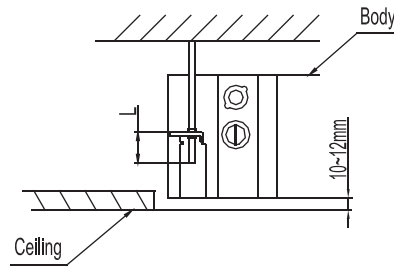

Fig.5-4
- Adjust the position to ensure the gaps between the body and the four sides of ceiling are even. The body's lower part should sink into the ceiling for 10~12 mm (Refer to Fig.5-4).
- In general, L is half of the screw length of the installation hook. (Refer to Fig.5-4)